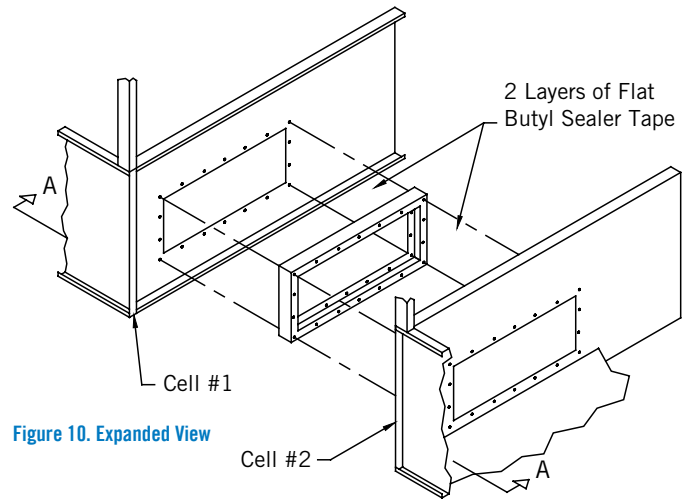

Figure 10. Expanded View
5. Fasten into place as shown in **Figure 10**. For basins with TriArmor® Corrosion Protection System, backing plates are to be installed inside the basin and flume box opening (see **Figure 11, Detail A**). Insert the 3/8” self-tapping screws or bolts in each hole from the flume box into the basin wall and backing strips (if applicable) as illustrated in **Figure 11**.
**NOTE:** For cold water basins constructed with the TriArmor® Corrosion Protection System, attach the vertical and horizontal backing plates as shown in Figure 10, Detail A.